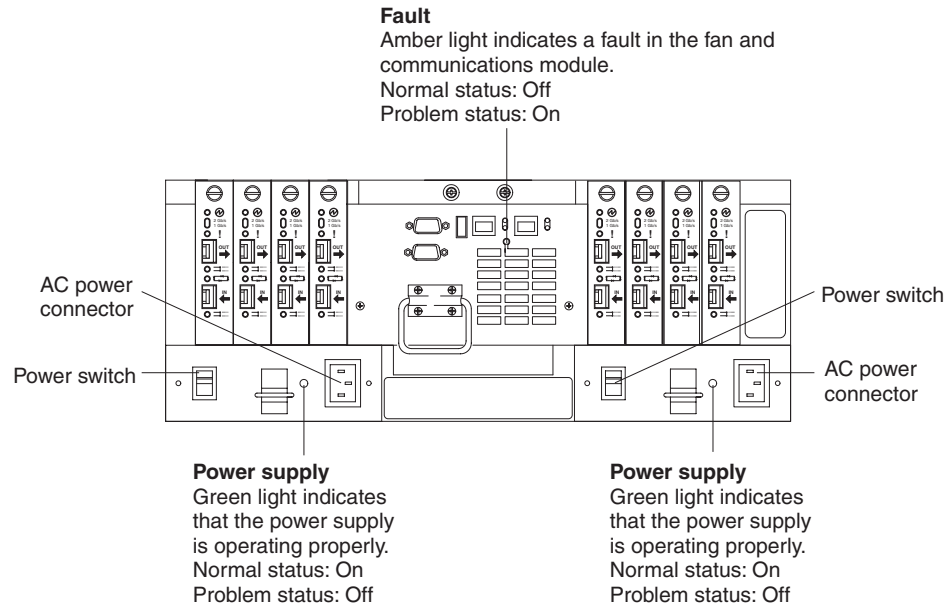

Figure 43. Power supply switch, ac power connectors, and indicator lights
1. Check the power supply indicator light on the back of the FASTt700 Storage Server, as shown in Figure 43. Be sure that the green power indicator light on the failed power supply is off.
2. Turn off the power switch and unplug the power cord from the failed power supply (see Figure 43 on page 50).